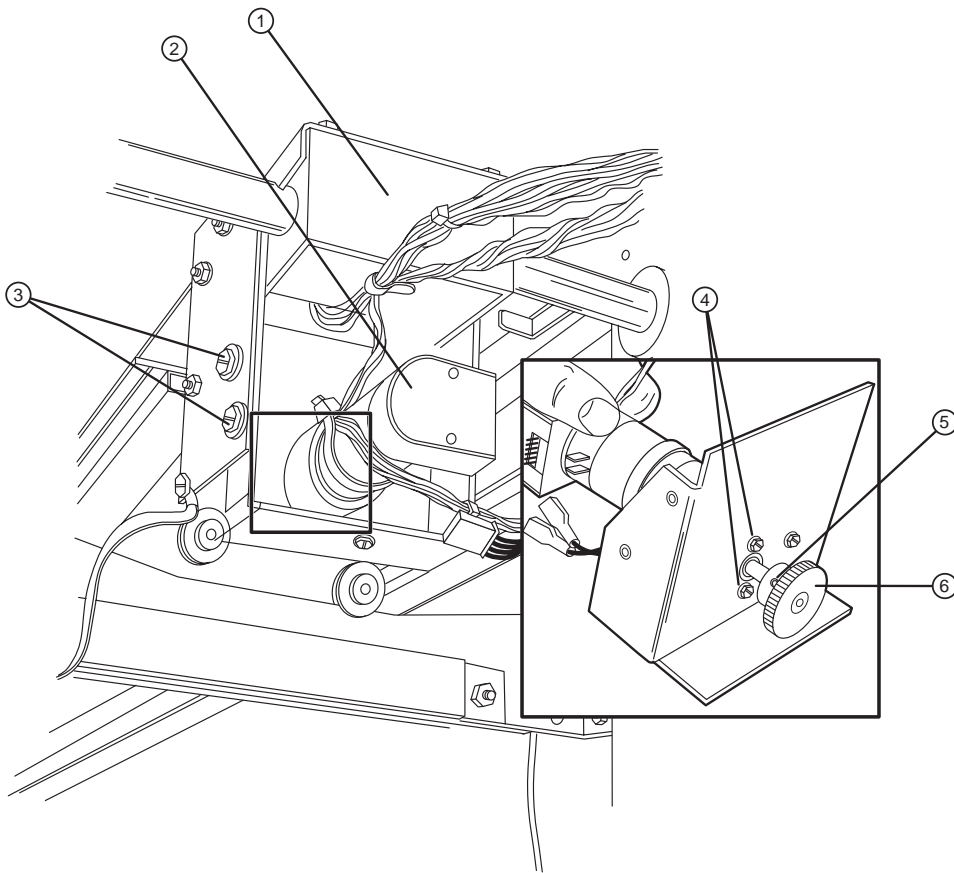

Figure 2-5 Buffer roller drive motor.
- ①—Buffer carriage. ②—Buffer roller drive motor.
- ③—Screws securing motor (two each side).
- ④—Three motor mounting screws. ⑤—Drive motor allen screw. ⑥—Drive gear.
5. Remove the four (4) 1/4" screws, two (2) on each side, securing the motor. Refer to Figure 2-5.
7. Remove the three (3) 3/16" motor mounting screws from the back of the motor bracket. Refer to Figure 2-5.
8. Remove the set screw from the gear. Refer to Figure 2-5.